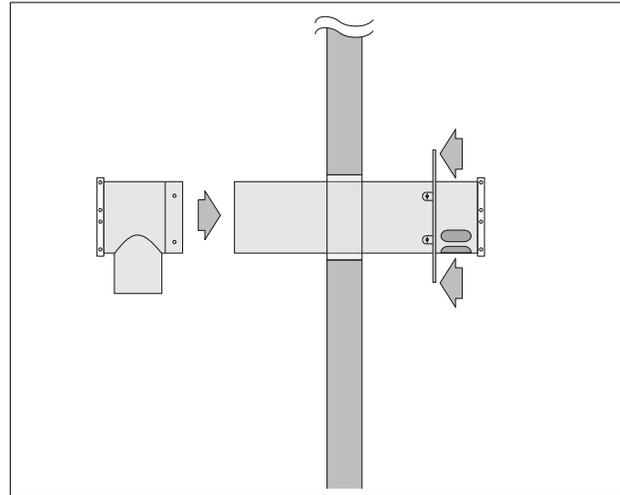

Fig. 8 Installation of horizontal wall terminal body
- Remove fresh air connection end from the terminal body and insert terminal body from the outside through the round 6" hole in the wall (Fig. 8). Install fresh air connection piece. Secure wall plate with 4 furnished screws to the wall.